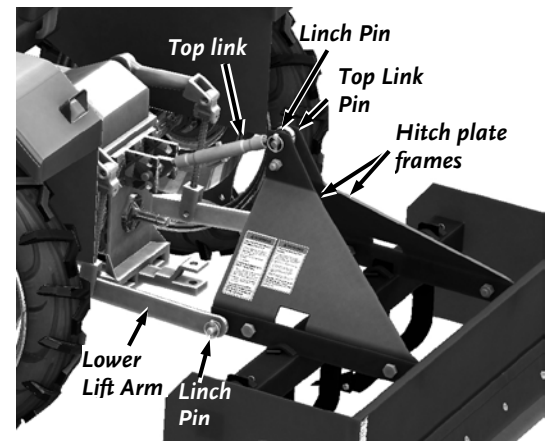

Figure 10
1. Position the rear of the Tractor centered at the Box Blade Frame (**Figure 10**).